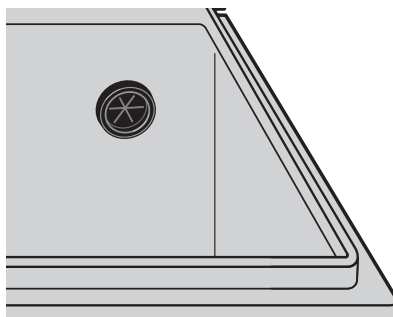

Figure 2, Inside View
3. Place the rubber Power Pass™ grommet from the outside of the box in the hole and be sure that it is properly seated. BE SURE NO SHARP METAL EDGES ARE EXPOSED (figure 2).